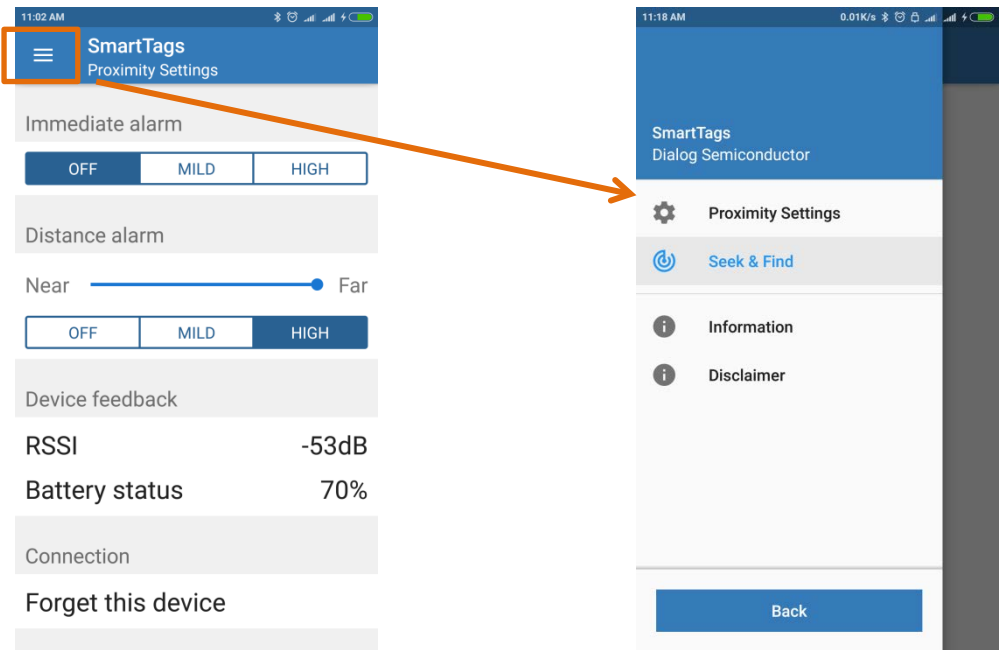

Figure 36: How to Access the Side Menu
- The side menu appear when the top left menu icon is clicked (Figure 36). From the side menu users have access to the Seek & Find game, the information of the device (Figure 37), and the disclaimer statement (Figure 38).
- Figure 36), the Dialog SmartTags app will start a Warmer/Colder game with the selected device.